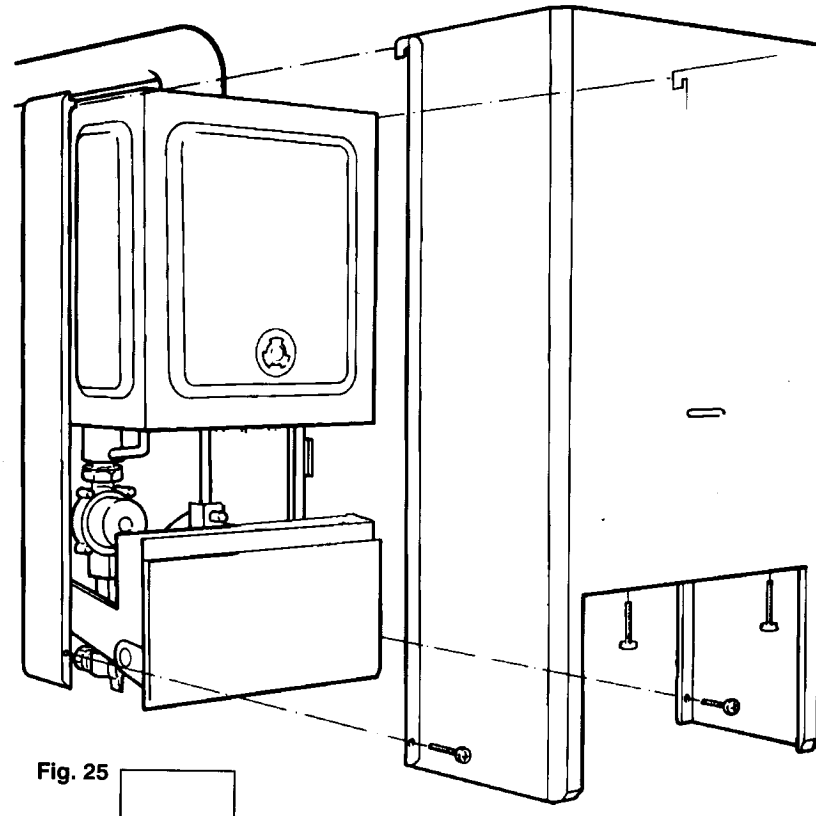

Fig. 25
6.15 Refixing the Front Cover (fig. 25)
Slide the casing downwards to fully engage the hooks and to align the bottom fixing holes. Replace the four case retaining screws. fig. 25).